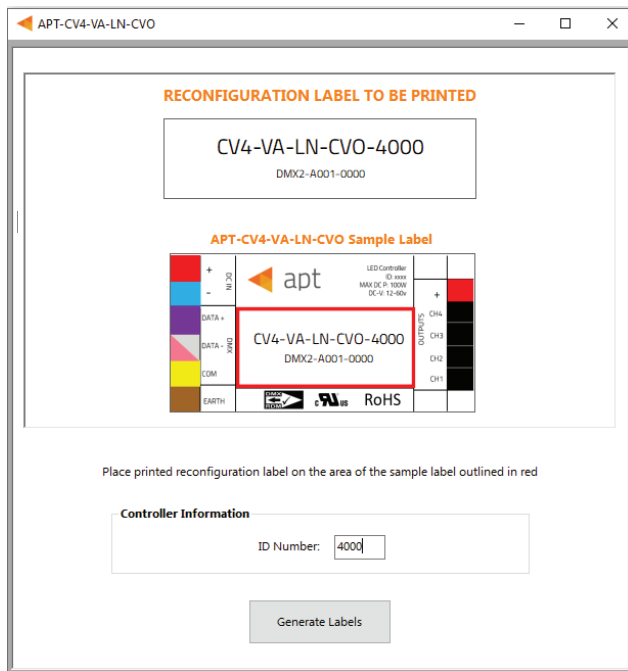

Figure 14: Label Generation window
- 2 Input the 4-digit **ID Number** written on the original label (shown in Figure 14). The ID Number indicates the production build of the APT Controller.